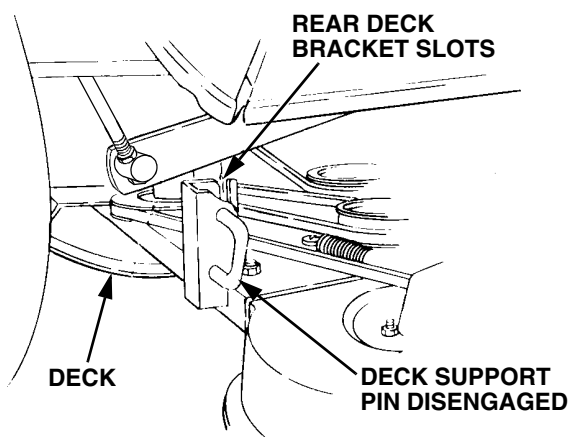

Figure 47
6. If not already done, pull the deck support pins outward, turn downward and release so both spring-loaded pins are held in the disengaged position against the outer surface of the deck brackets (Refer to Figure 47).